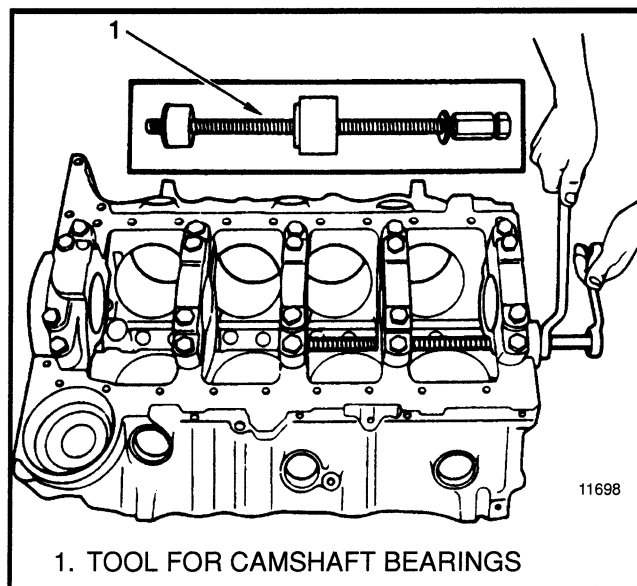

FIGURE 12. CAMSHAFT BEARINGS
4. If necessary, use a special tool as shown in FIGURE 12. to remove the camshaft bearings. Remove the front and rear bearings last.
1. Use a special tool as shown in FIGURE 12, to install the camshaft bearings. Install the front and rear bearings first. Make sure the oil holes in the bearings are aligned with the oil holes in the block. Use a sealant on the rear camshaft plug and install the plug in the block. Make sure the plug is even with or 0.80 mm (0.03 in) below the surface of the block.